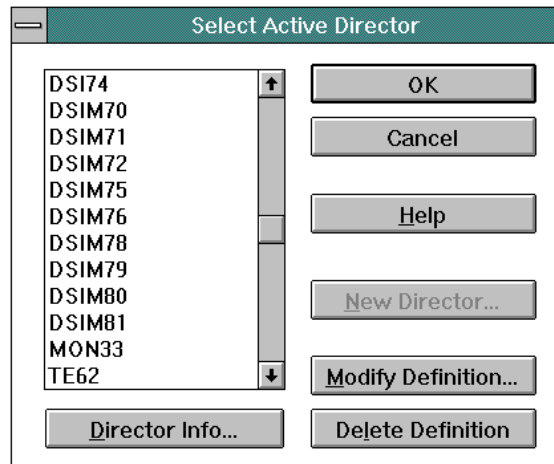

Figure 10-18. Select Active Director Dialog Box
2. Select the *Open Active Configuration Matrix* option from the *File* menu. The *Select Active Director* dialog box appears (Figure 10-18).